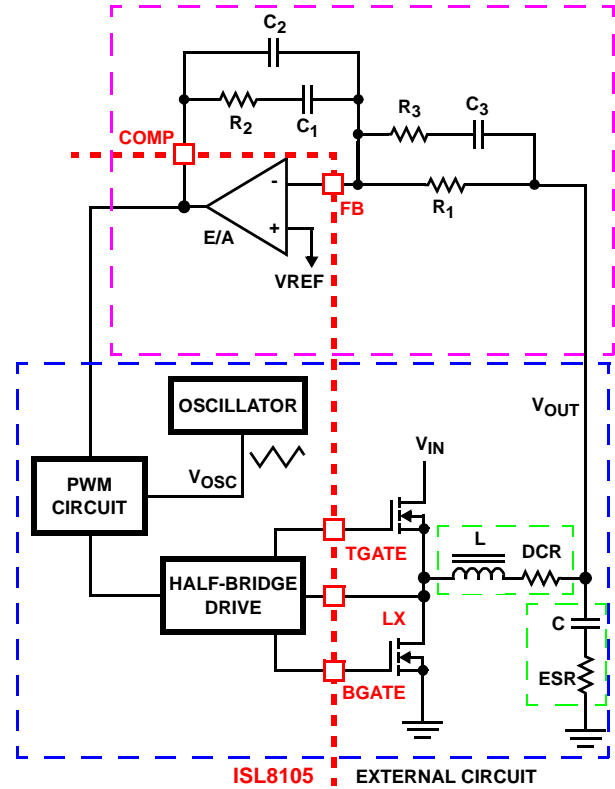

FIGURE 9. VOLTAGE-MODE BUCK CONVERTER COMPENSATION DESIGN
This section highlights the design considerations for a voltage-mode controller requiring external compensation. To address a broad range of applications, a type-3 feedback network is recommended (see Figure 9).
Figure 9 highlights the voltage-mode control loop for a synchronous-rectified buck converter, applicable to the ISL8105 circuit. The output voltage ( $V_{OUT}$ ) is regulated to the reference voltage,  $V_{REF}$ , level. The error amplifier output (COMP pin voltage) is compared with the oscillator (OSC) triangle wave to provide a pulse-width modulated wave with an amplitude of  $V_{IN}$  at the LX node. The PWM wave is smoothed by the output filter (L and C). The output filter capacitor bank's equivalent series resistance is represented by the series resistor ESR.
The compensation network consists of the error amplifier (internal to the ISL8105) and the external  $R_1$  to  $R_3$ ,  $C_1$  to  $C_3$  components. The goal of the compensation network is to provide a closed loop transfer function with high 0dB crossing frequency ( $F_0$ ; typically 0.1 to 0.3 of  $f_{SW}$ ) and adequate phase margin (better than  $+45^\circ$ ). Phase margin is the difference between the closed loop phase at  $F_{0dB}$  and  $+180^\circ$ . The equations that follow relate the compensation network's poles, zeros and gain to the components ( $R_1$ ,  $R_2$ ,  $R_3$ ,  $C_1$ ,  $C_2$ , and  $C_3$ ) in Figure 9. Use the following guidelines for locating the poles and zeros of the compensation network:
1. Select a value for  $R_1$  ( $1k\Omega$  to  $10k\Omega$ , typically). Calculate value for  $R_2$  for desired converter bandwidth ( $F_0$ ). If setting the output voltage to be equal to the reference set voltage as shown in Figure 9, the design procedure can be followed as presented.